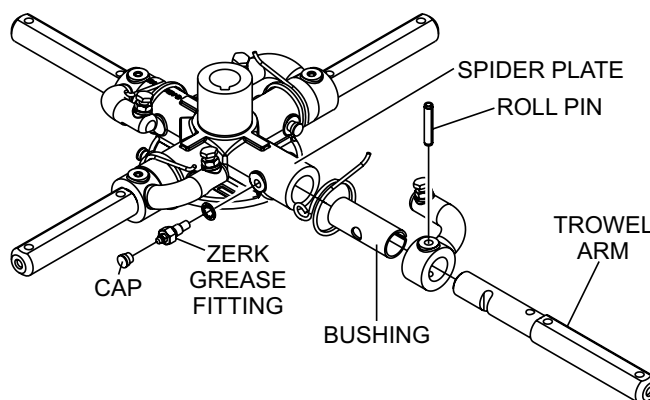

Figure 53. Trowel Arm Removal
1. Each trowel arm is held in place at the spider plate by a hex head bolt (zerk grease fitting) and a roll pin. Remove both the hex head bolt and the roll pin (Figure 53) from the spider plate.
4. Examine the trowel arm bushing insert (Figure 53), clean if necessary. Replace bushing if out of round or worn.